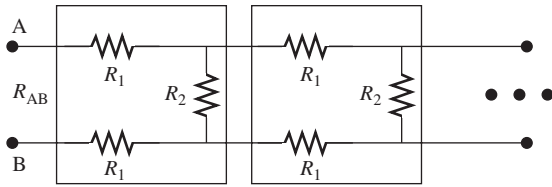

FIGURE P3.14 Circuit for Problem 3.14.
3.14 (H) Find the resistance seen through the terminals A and B (R_{AB}) in Figure P3.14. The circuit in the box repeats infinitely.